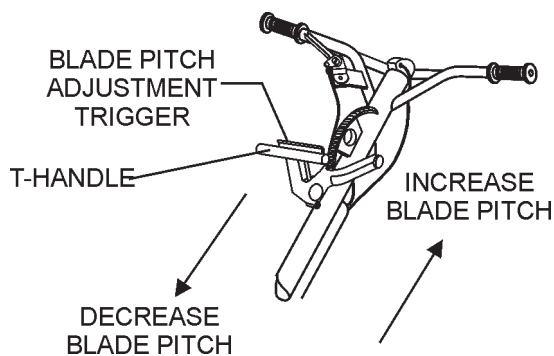

Figure 27. Quick Pitch™ T-Handle
1. To pitch the blades upwards using the "**Quick Pitch™ T-handle**" (Figure 27) simply squeeze the trigger lock and pull the **T-handle** towards the operator. Pushing the **T-handle** towards the engine will cause the blades